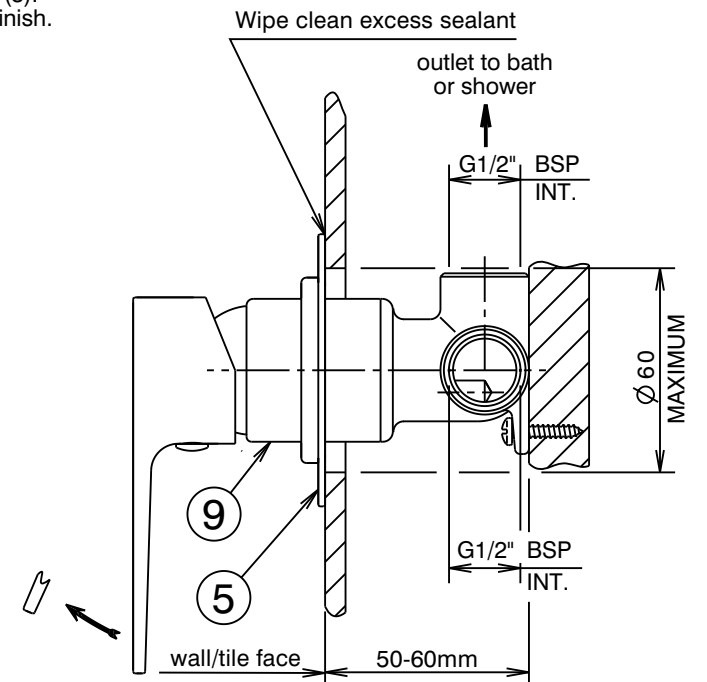

Fig. 1
Installation (Fig. 1 & 2)
- 3) Carefully slide the cover plate (5) together with trim cover & seal (5a) onto the mixer body (9), push firmly on the trim cover until the cover plate (5) contacts the wall/tile face and the sealant has formed a watertight joint. Wipe clean any excess sealant from the chrome surfaces & the wall/tile face (See Fig. 1).
- 4) Fit handle (1) taking care that it is pushed fully onto cartridge stem, then tighten grub screw (2) using the 2.5mm allen key (3). Fit plug (4), taking care not to damage the decorative finish.